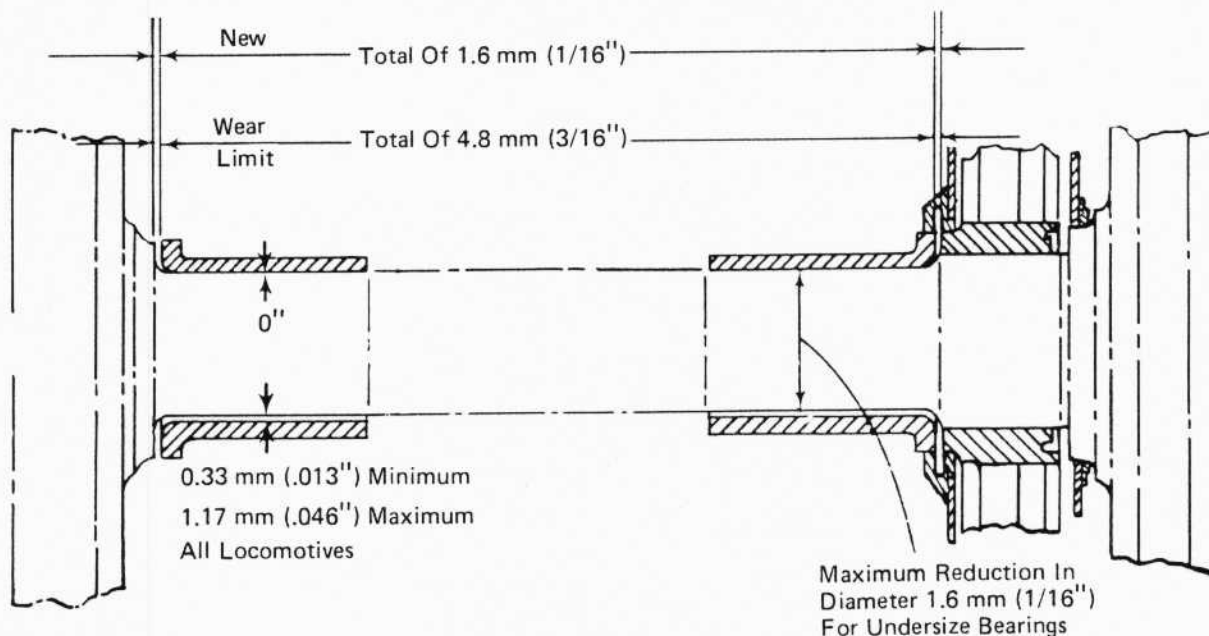

Fig. 19 - Support Bearing Clearance
The support bearings should be checked for lateral clearance to make sure they do not exceed the wear limits shown in Fig. 19.
6. Measure lateral and radial clearance as shown in Fig. 19.